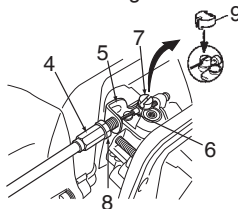

Fig. 5
Connect throttle wire end (6) to carburetor (7) and install swivel cap (9). (Fig. 5)